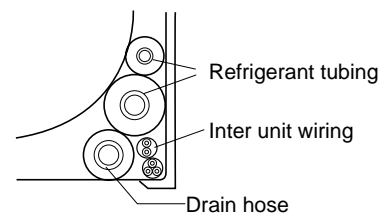

Fig. 3-61 0081_K_I
- (5) Assemble the refrigerant tubing, drain hose, and inter-unit wiring as shown in (Fig. 3-61).